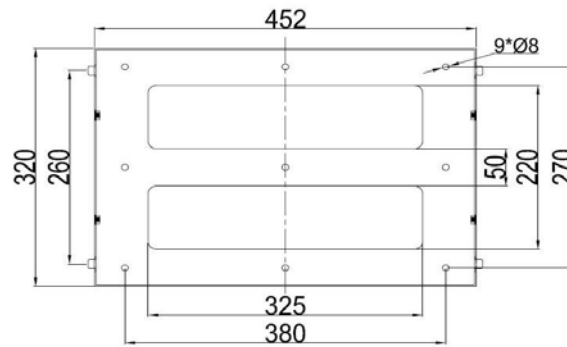

Fig.4 The size of For SUNTREE 5000TL/6000TL/8000TL
Step1: Drill 9 holes as illustrated in the Fig.4
Step2: Fix the mounting frame as illustrated in the Fig.4 by the screws, then, hang the inverter on the mounting frame.